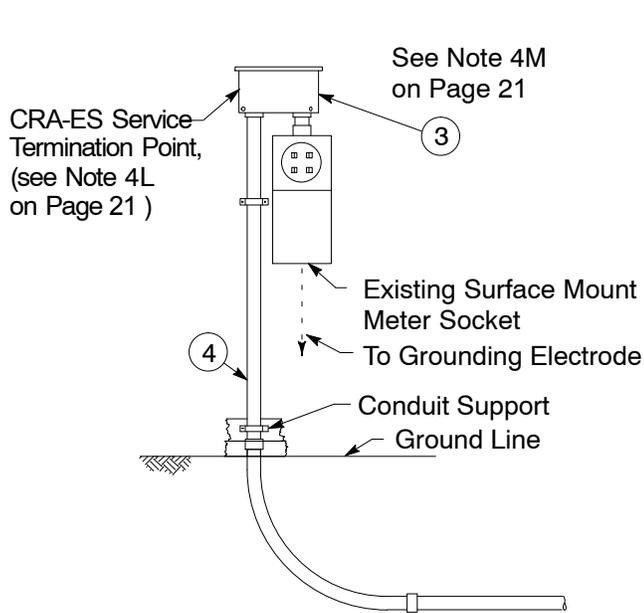
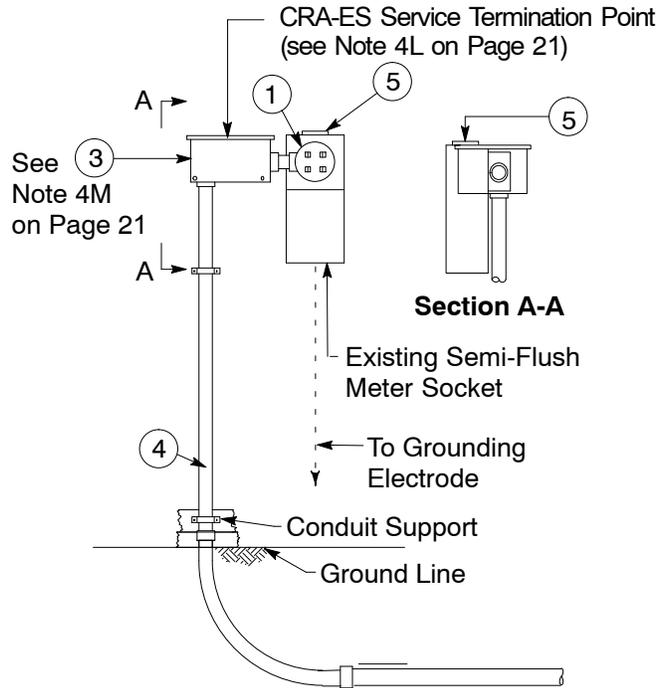

Figure 4
Figure 5
- M. Item 3 on Figure 4 and Figure 5 may be used only if service conductor is 1/0 AWG or smaller and can be pulled from the CRA-ES end of the service.